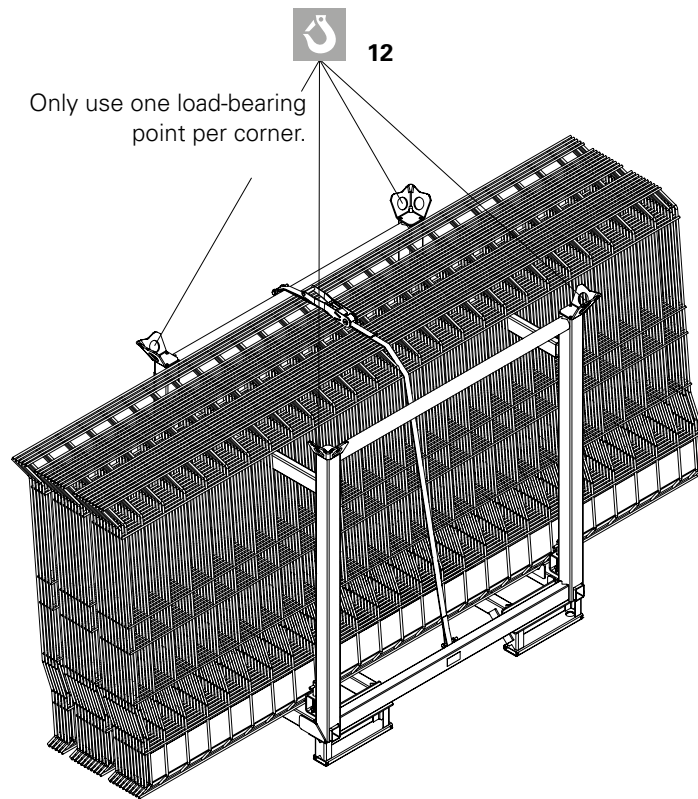

Fig. A1.03
- Always attach the 4-sling lifting gear to the four load-bearing points (12). (Fig. A1.03)